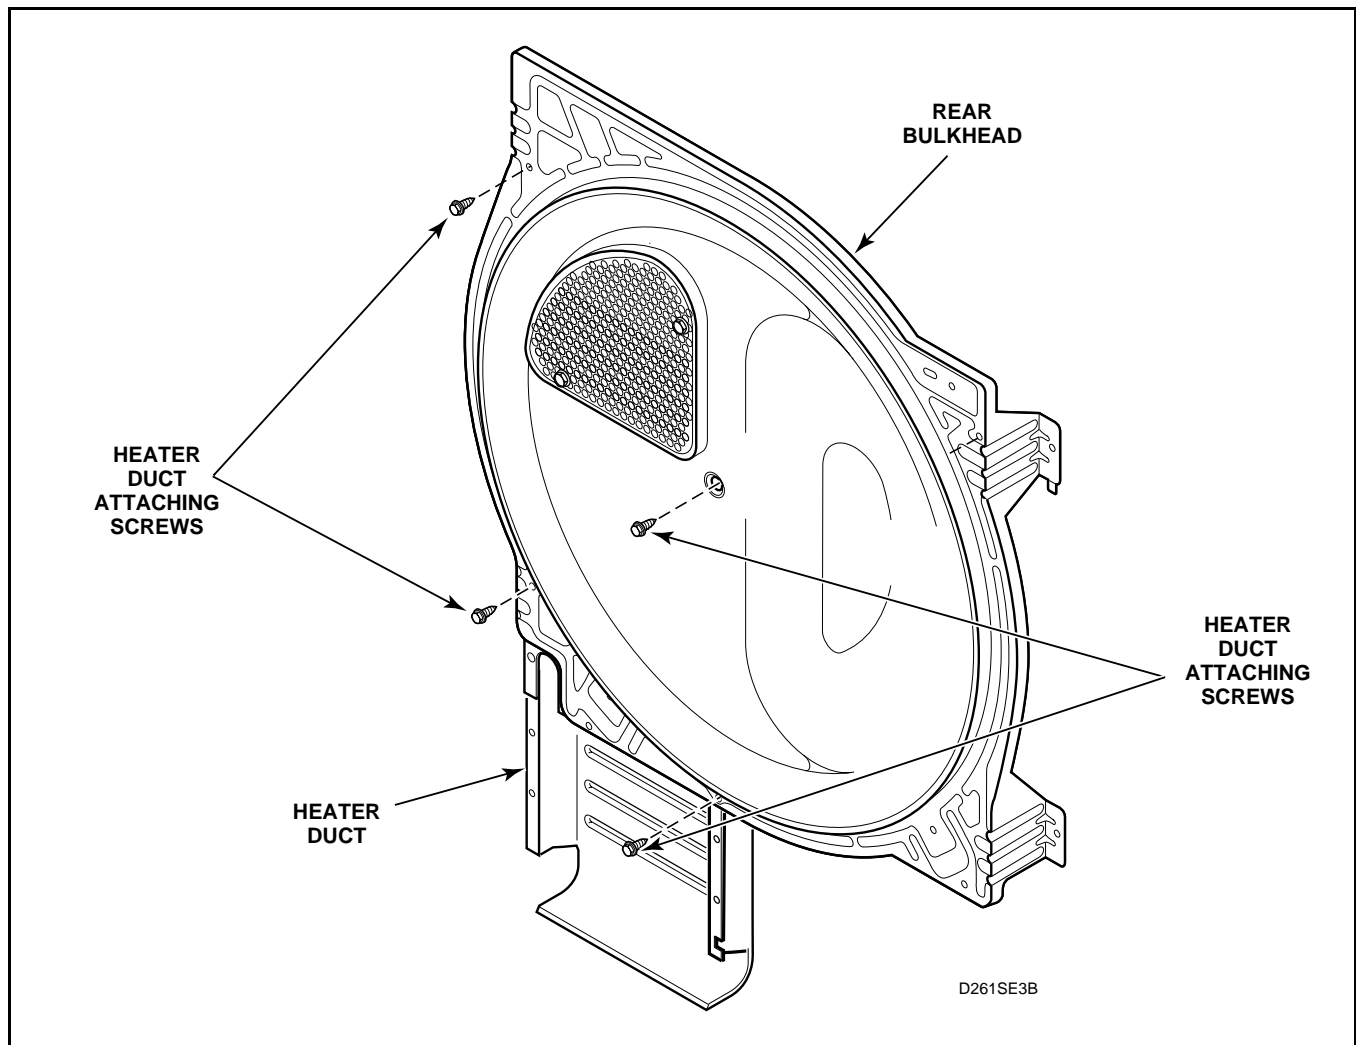

Figure 32
- (5.) Remove heater duct from rear bulkhead. See *Figure 32*.
- k. To remove heater duct from rear bulkhead. See *Figure 32*.